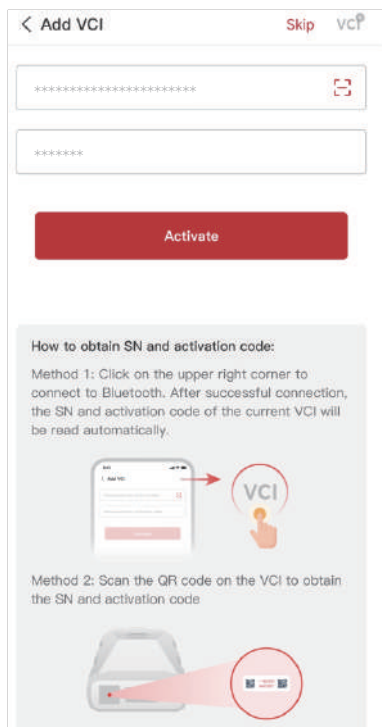

Figure 3-7
- ④ Select your device from the list of searched Bluetooth devices.
- ⑤ After successful Bluetooth connection, the SN and the activation code of the VCI will be read automatically. Then tap Activate (See Figure 3-7).